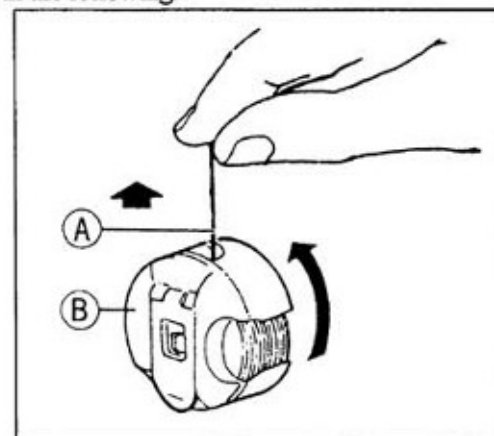

Fig. 12
It is common practice to test the bobbin test the bobbin thread tension as shown in Fig.12 . Hold the end of the thread from delivery eye. If the bobbin case is falling slowly, the proper tension is obtained. The needle thread tension can be adjusted by setting (1) the take-up spring tension, (2) the thread take-up spring stroke and (3) tension spring. All these adjustments will be described in the following.